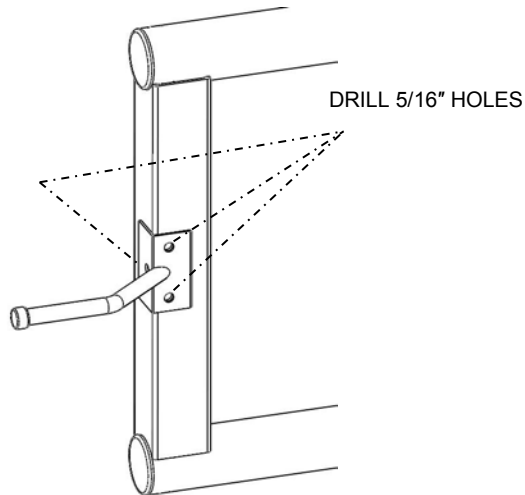

FIG. 7.17
7.8.5. Center finger catch on the gate square tube opposite the hinge and mark center of holes with a pencil. Drill three 1/8" holes through one side of the vertical handrail tube (FIG. 7.17).